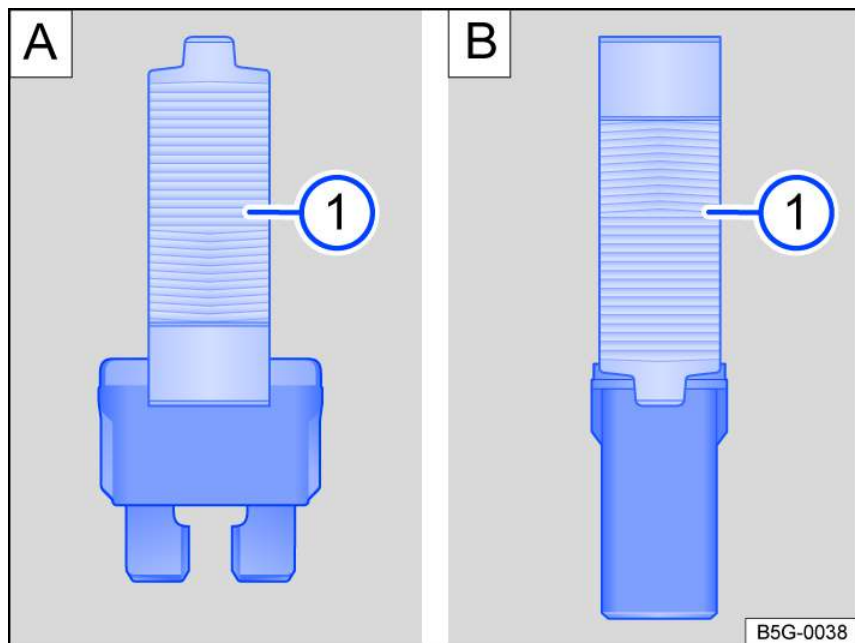

Fig. 141 Remove or install a fuse with the plastic pliers (general example).
- Depending on the fuse version, push the fitting clamp on the plastic pliers on the side of the fuse fig. 141 **A** **1** or fig. 141 **B** **1**.